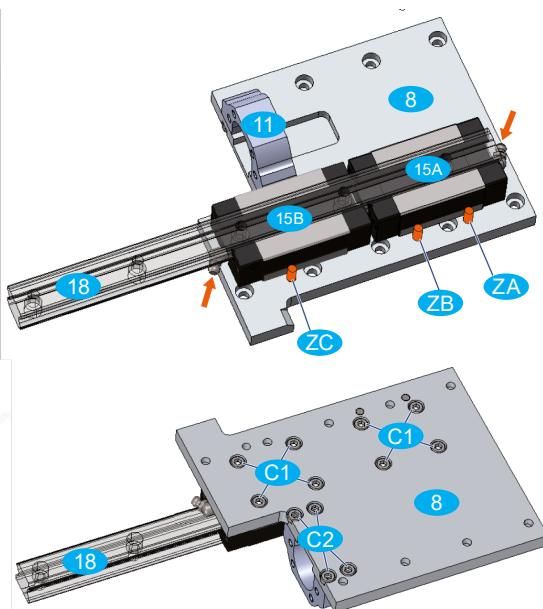

Fig. 35: Assembly of the Z-axis carriage. Red arrows show the location of the grease nipples.
- The grease nipple on the carriage points down and to the right as shown for 15A in Figure 35
- The grease nipple on the carriage 15A points down and to the right as shown in Figure 35